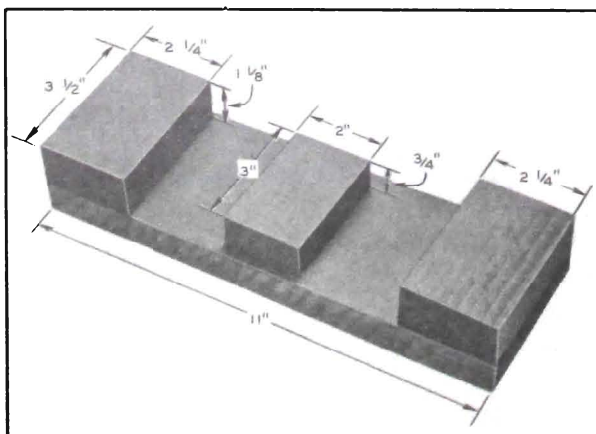

Figure 5-52—Variable Pitch Stator Assembling Fixture
2. Place the rear carrier and piston on center block of fixture to hold the piston in position. See suggested fixture shown in Figure 5-52.